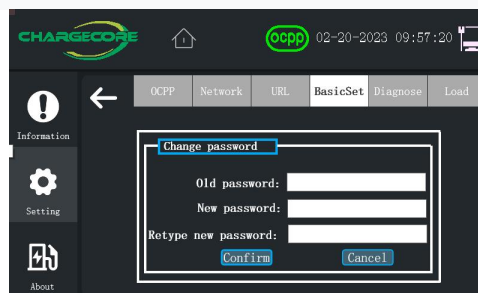

Figure 22. Change Password
- Enter the six-digit old password, new password, and confirm the new password (Figure 22), click "Confirm" and the modification is successful.